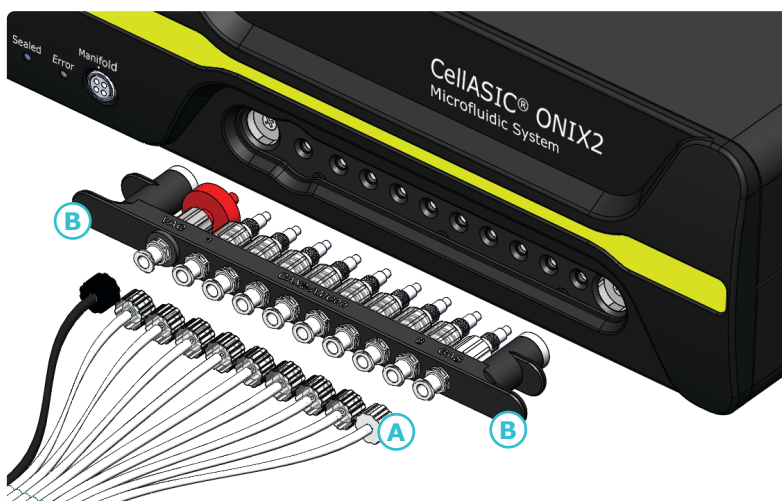

Figure 6. Connecting the Filter Multiconnector
NOTE: As an alternative to using premixed tanks and the on-board gas flow control, you can attach the system to a separate gas mixing source. Simply attach a gas line flowing the desired gas mixture to the white Luer fitting labeled **GAS** on the manifold tubing (A in Figure 6). For this setup, the gas mixture must be at atmospheric pressure and regulated to a flow rate of 3–100 mL/min.
- Securely attach the vacuum Luer fitting (black), eight pressure Luer filters (translucent), and gas Luer fitting (white) from the manifold to the Luer fittings on the CellASIC® ONIX2 Filter Multiconnector, cat. no. CAX2-AMC00 (Figure 6). The Filter Multiconnector can be plugged into the front panel of the system as shown in the figure below. Magnets and spacing prevent the connector from being plugged in incorrectly. To disconnect, pull on the tabs on both ends (B).